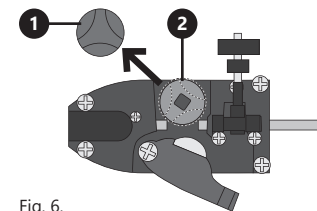

Fig. 6.
- (see Fig. 6) In order to change the thickness of the groove:
- » Turn the guide roller knob (1) and remove it.
- » Remove the guide roller (2).
- » Select the appropriate thickness of the groove and set the roller (2) so that the selected groove is closer to the centre of the machine.
- » Fit the guide roller (2) on the pin.
- » Install the guide roller knob (1) and turn to secure the connection.